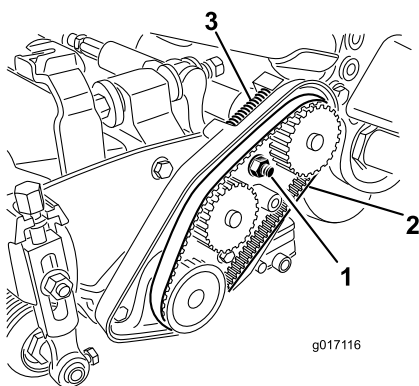

Figure 42
- A. Loosen the bearing housing mounting nut (Figure 42).
- C. Clean any debris from inside the belt compartment and from around the compression spring (Figure 42).